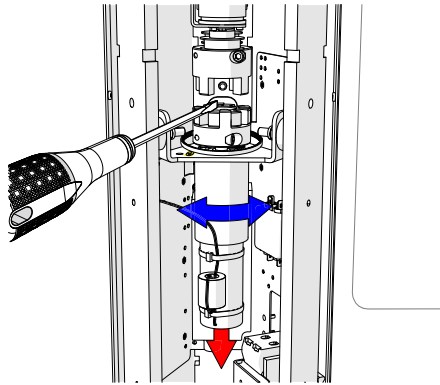
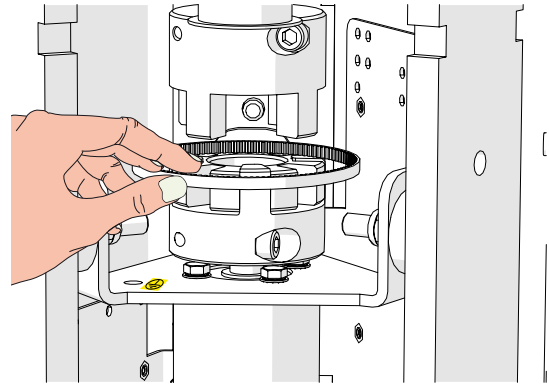

Fig. 37 - Belt replacement (Motor)
Fig. 38 - Belt replacement (Replacement)
8. Pull the motor firmly downwards until there is enough space between the elastic coupling elements to remove the belt (Fig. 37) + (Fig. 38);
9. Put the new belt in place by passing it over the elastic coupling on the motor side (Fig. 38);